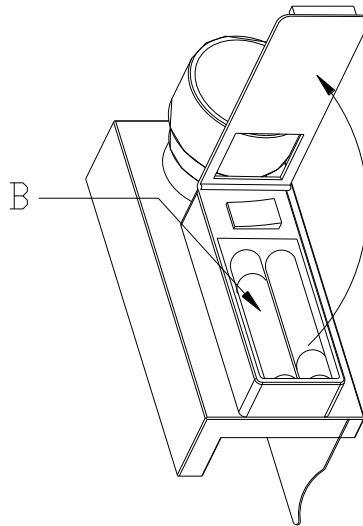

Figure 2
- To reach the batteries room open the lid (see fig. 2).